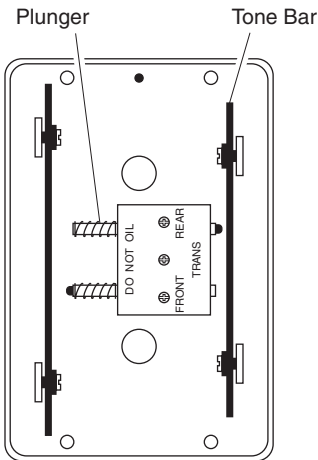

Figure 4 - Inside Typical Mechanical Chime
5. Locate your chime and remove the cover. If you see tone bars and plungers you have a mechanical chime (see Figure 4). If not, you have an electronic chime.